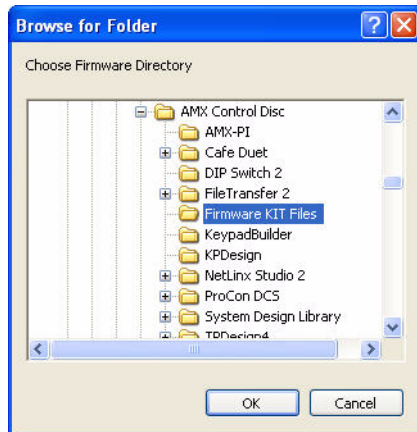

FIG. 59 Browse For Folder dialog (NetLin Studio)
- Click the Browse (...) button to navigate to the target directory in the Browse For Folder dialog (FIG. 59).